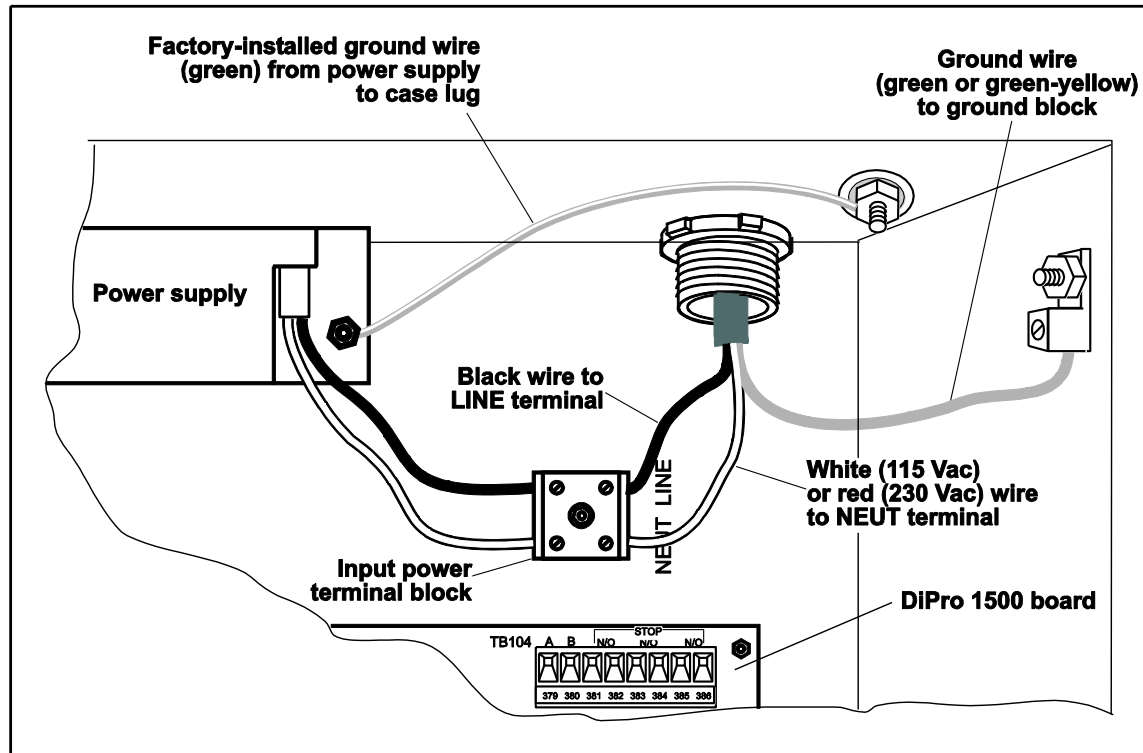

Figure 2-10. Connector and ground block for AC power.
6. First connect the ground (green or green/yellow) wire of the AC power cable to the ground block as shown in Figure 2-10. To connect, strip the ground wire 1/4" (6.4 mm) from the end, loosen the screw on the ground block, slide the wire into the hole, and tighten the screw to secure the wire in place.
7. Connect the line and neutral power wires to the input power terminal block as shown in Figure 2-10. Strip each wire 1/4", insert into the hole indicated and tighten the screw to secure.